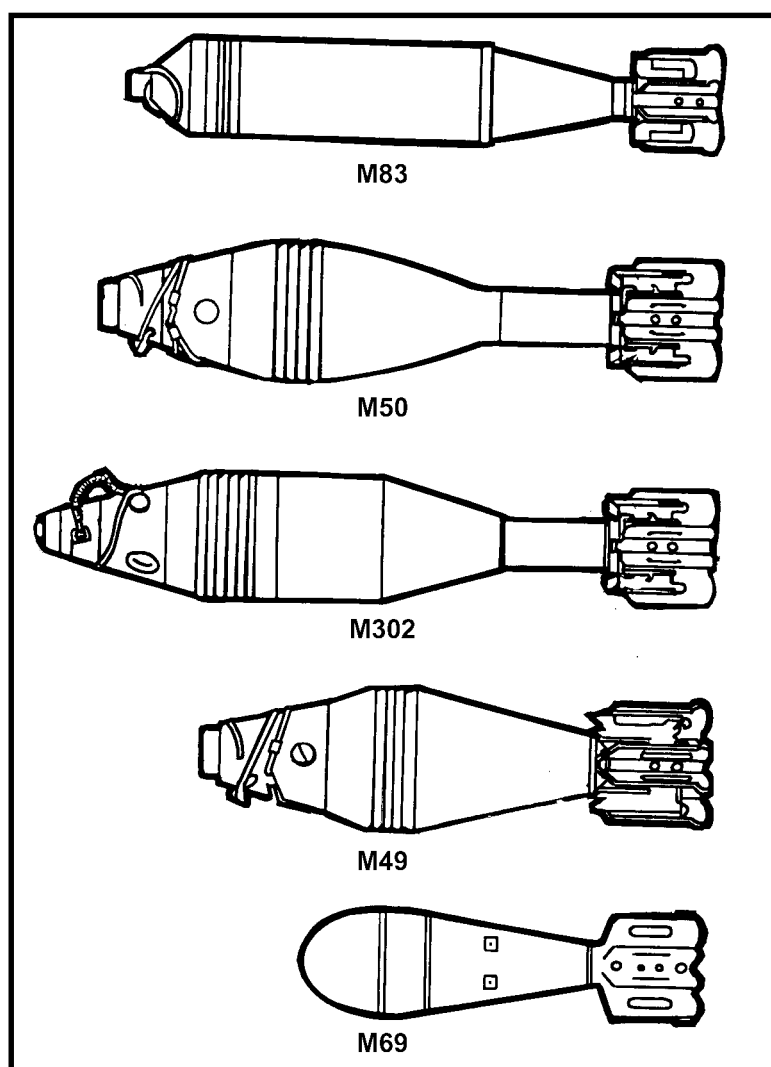

Figure 3-11. Standard B ammunition.
b. The standard B rounds shown in Figure 3-11 are available for training with the M224. Ranges given are for general reference and could vary from those actually obtained. Never fire over charge 1 for the M720 or M888 cartridge when using the M224 in the handheld mode. Using standard B ammunition, HE can be fired up to charge 3 and WP/ILLUM can be fired up to charge 2.